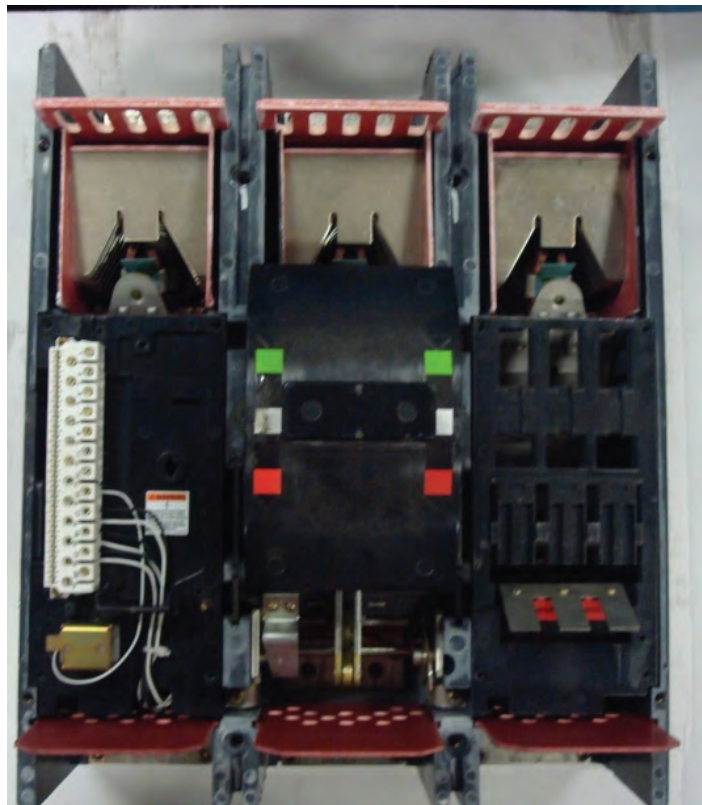
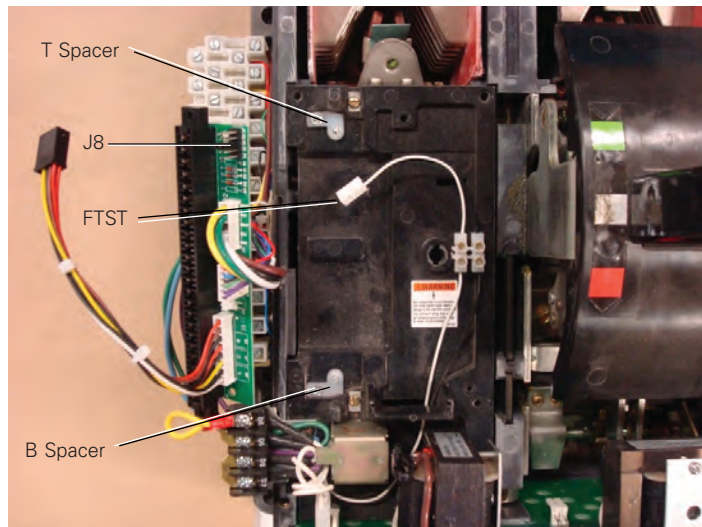

Figure 6C. Trip Unit Removed and Type "D" Edge Connector Revealed.
Figure 13. New Style Edge Connector Board Prepared for installation on an RD Deck.
Note: The edge connector shown in Figure 6C is a Type "D" edge connector, as referenced in Figure 27 from the four possible types of edge connectors.
Figure 13 shows the preparation for mounting the new style edge connector boards to an existing R-Frame Domestic (RD) deck that originally had a white terminal block, as in Figure 6C. The points to note are where the "T" (top) and "B" (bottom) adapter/spacers have been installed. They can be seen in place, held to the deck with Phillips head screws, and the male threads of the screws for the edge connector board protruding from the back side of the adapters (they look similar to an "L" shaped piece of nylon).
Note: The edge connector must sit on top of the nylon spacers and held on with the two nylon hex nuts. The addition of a two-position connector for the Flux Transfer Shunt Trip (FTST) leads has also been added in Figure 13.